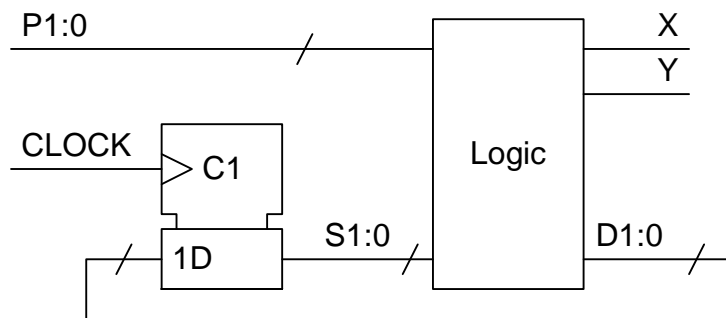

Figure 1
6. *Figure 1* shows the circuit of a synchronous state machine having a 2-bit input P0:1 and two outputs, X and Y. The logic block implements the following Boolean equations: